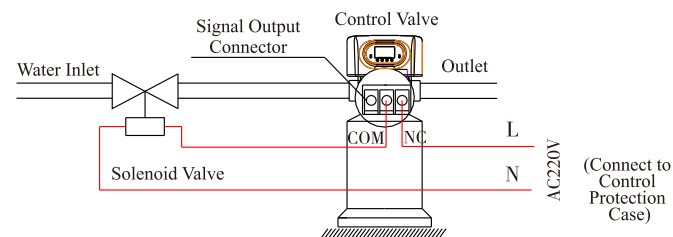

Figure 3-2 Wiring of Solenoid Valve on Inlet
**Instruction:** When inlet pressure exceeds 0.6MPa, install a solenoid valve on inlet. Control mode is b-02. Pressure is relieved when valve switching, the wiring refers to Figure 3-2.